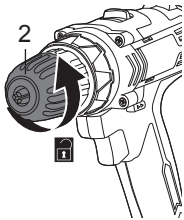

Fig. 1
- > Turn the chuck sleeve (2) anticlockwise until the chuck jaws are opened wide enough to insert the drill bit (Fig. 1).